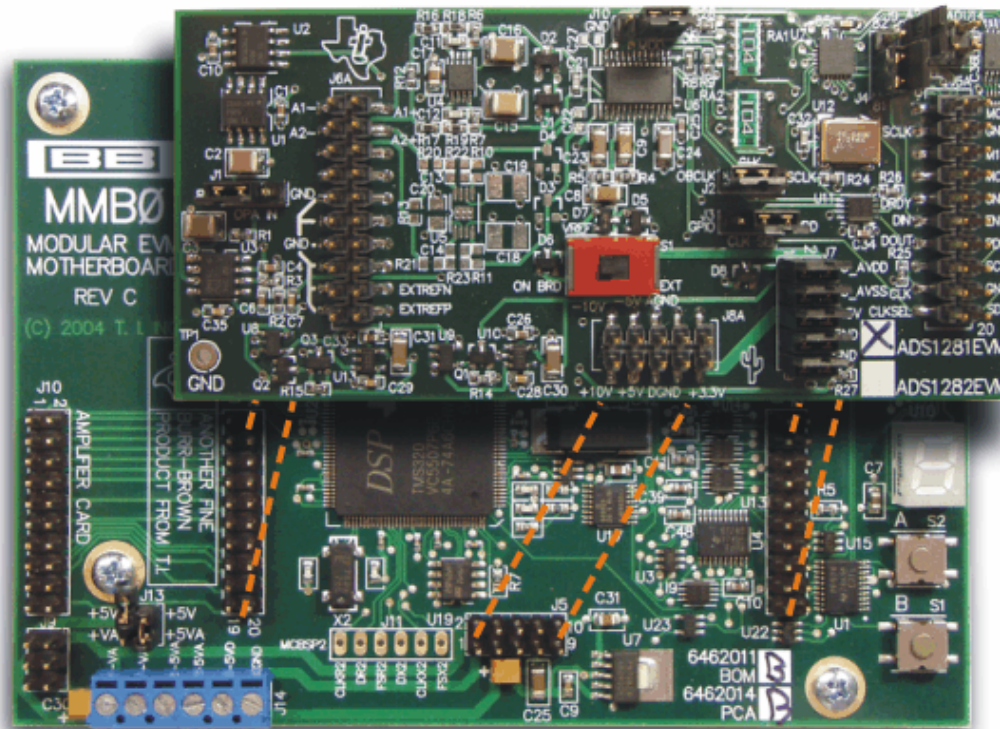

Figure 6. Connecting ADS1281EVM to MMB0
3. Plug the ADS1281EVM into the MMB0 as Figure 6 illustrates.